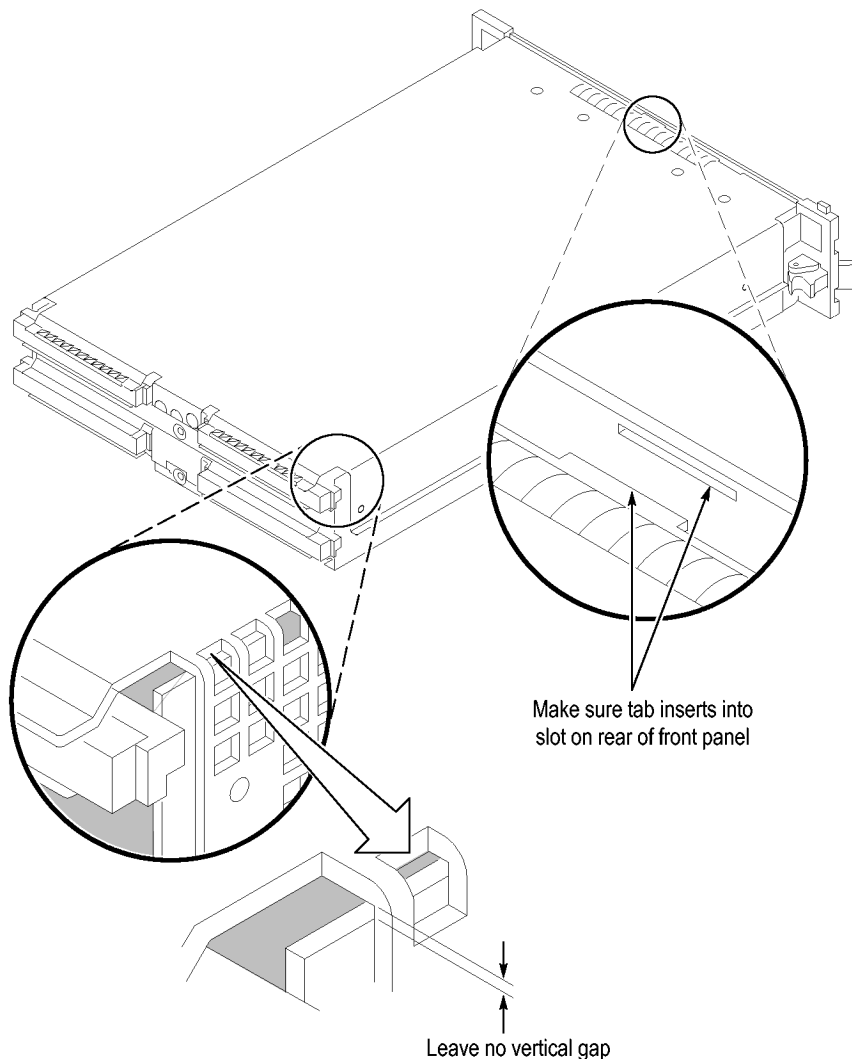

Figure 54: Seating the cover on the chassis
6. Push forward on the cover so that you insert the tab on the front edge of the cover into the rear of the front subpanel. Make sure that the cover is fully seated and there are no gaps between the front and rear chassis flanges. (See Figure 54 on page 66.)